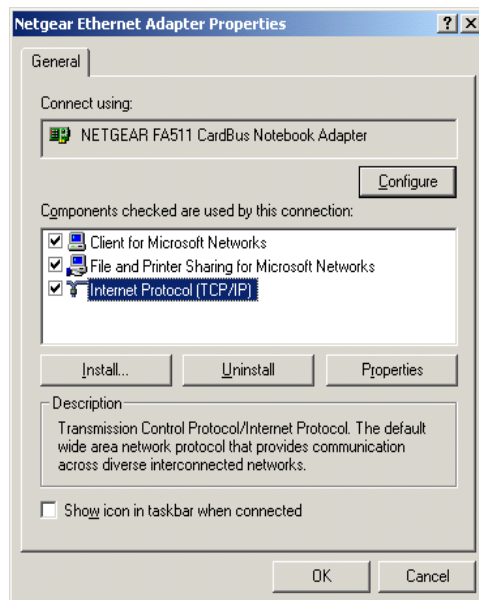

Figure A-1.4
4. Double-click the icon **Internet Protocol (TCP/IP)** (see Figure A-1.4).